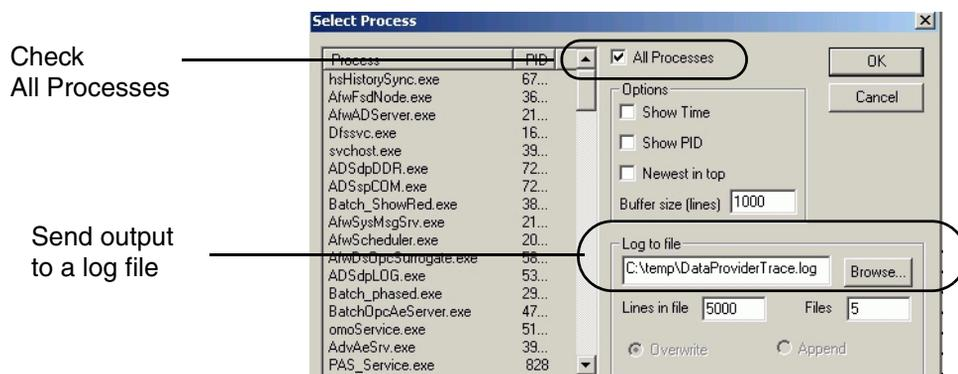

Figure 88. Select Process Dialog
2. Use this dialog to open the Trace Monitor. As an option, you can also use this dialog to send the trace output to a log file (reference Figure 88):